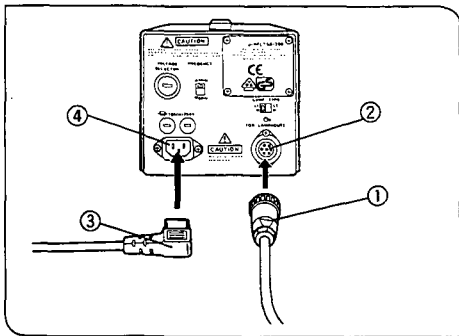

Fig. 11
7 Connecting Cords and Cables (Figs. 11,12)
1. Plug the burner socket connecting cord plug ① firmly into the output socket ② on the power supply unit. (Fig. 11)
2. Connect the power cord plug ③ to the AC receptacle ④ on the power supply unit. (Fig. 11)